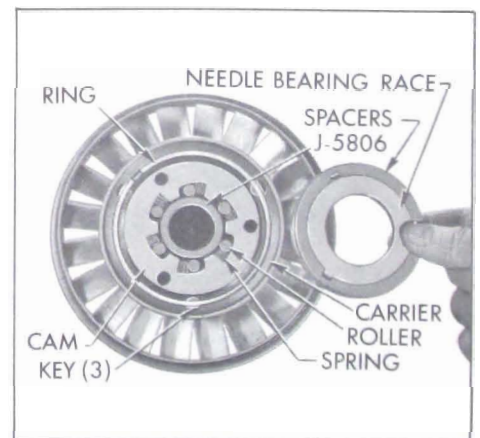

Figure 5-49—Parts in Rear Side of Stator
2. Pry the retaining ring from groove in stator blade rear carrier, and remove free wheel cam and three driving keys. See Figure 5-49.